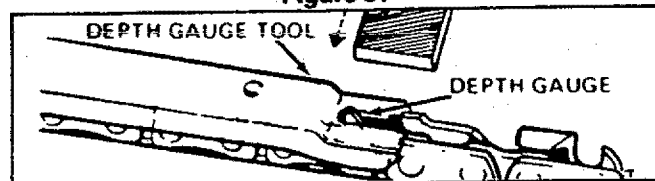

Figure 32
- Place depth gauge tool over each cutter depth gauge. Figure 32.
- Maintain rounded front corner of depth gauge with a flat file. Figures 32 & 33.